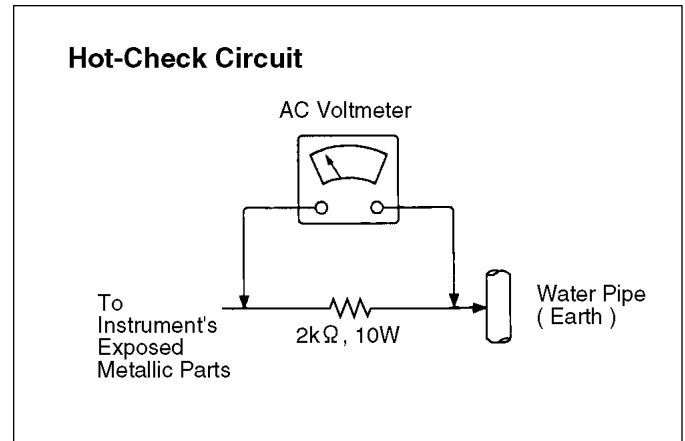

Fig. 1
1.3. Leakage Current Hot Check (See Fig.1)